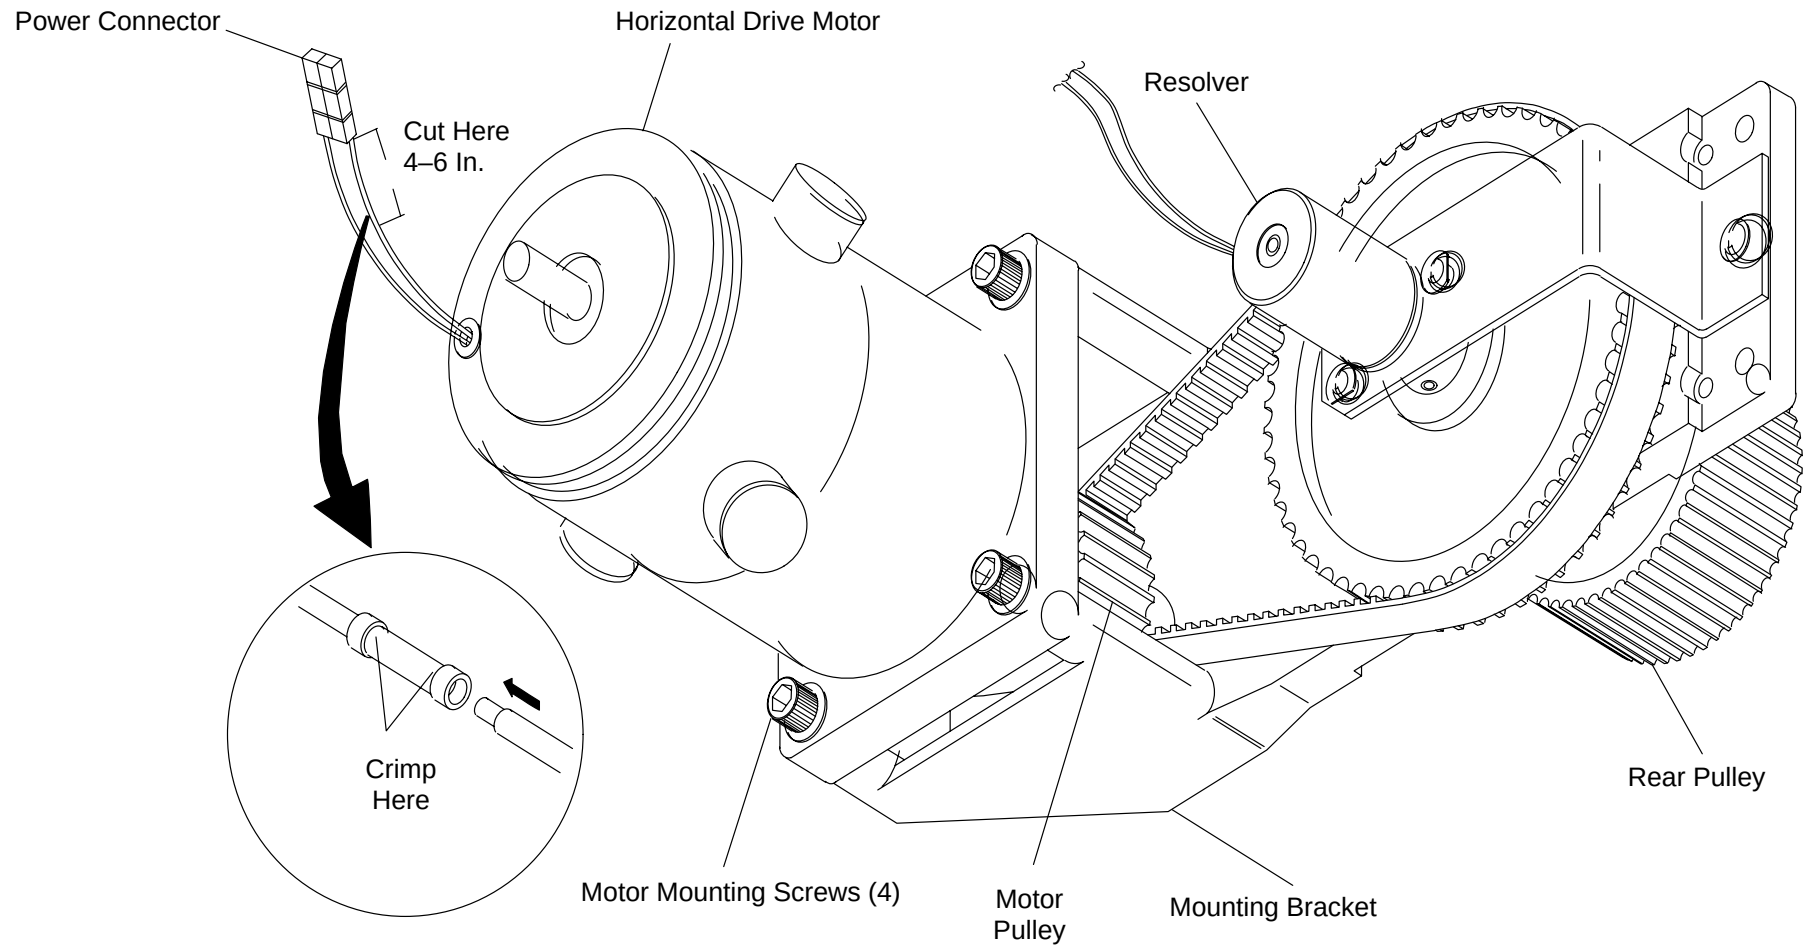

FIGURE 199 HORIZONTAL MOTOR ASSEMBLY
7. Support the Horizontal Drive Motor and remove the four Socket Head Cap Screws and the Washers that hold the Assembly to its Mounting Bracket. See Figure 199.
11. Cut the Power Connector off the old Motor as shown Figure 199.
14. Place the Timing Belt around the Pulley and mount the replacement Horizontal Drive Motor to the Mounting Bracket with the four (4) Socket Head Capscrews.